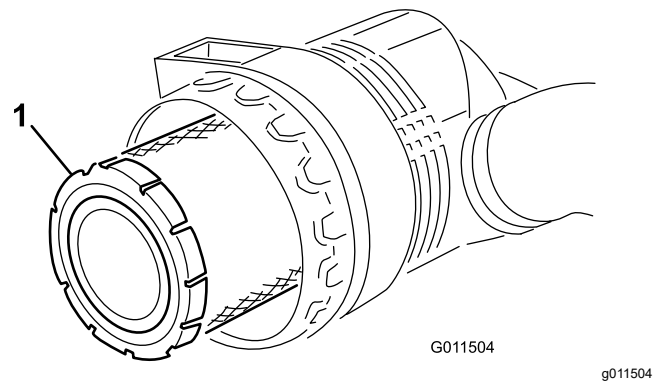

Figure 71
3. Remove and replace the primary filter (Figure 71).